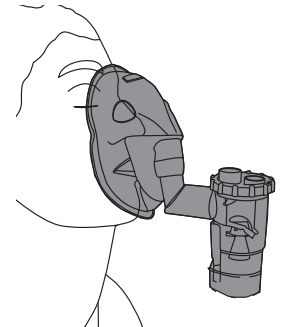

Figure 18
- Press the inhalation mask/tracheostoma mask gently over your face/tracheostomy/nose (Figure 18 - 20), relax, and breath in.